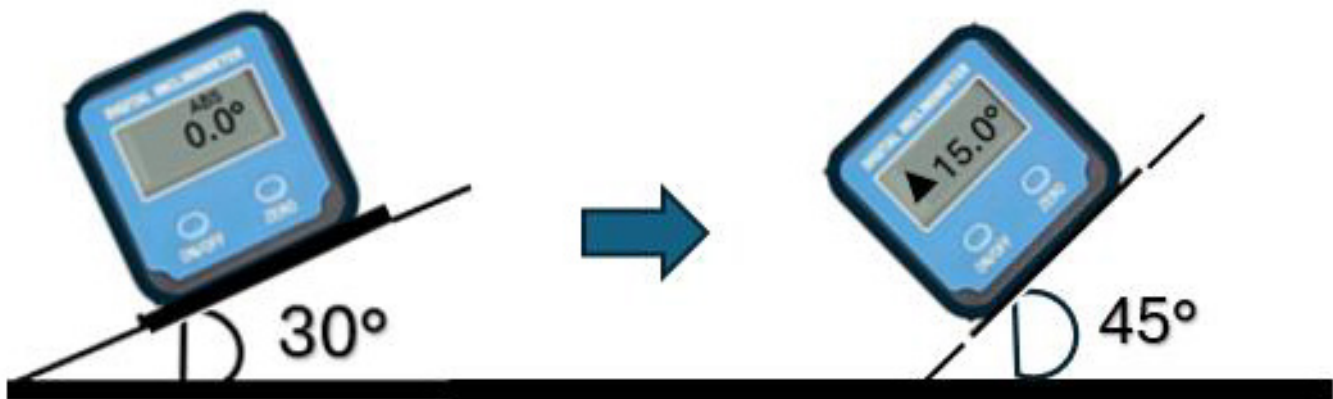

Figure 3
- Relative Measurement Mode allows the operator to measure the difference between two objects (Figure 3).